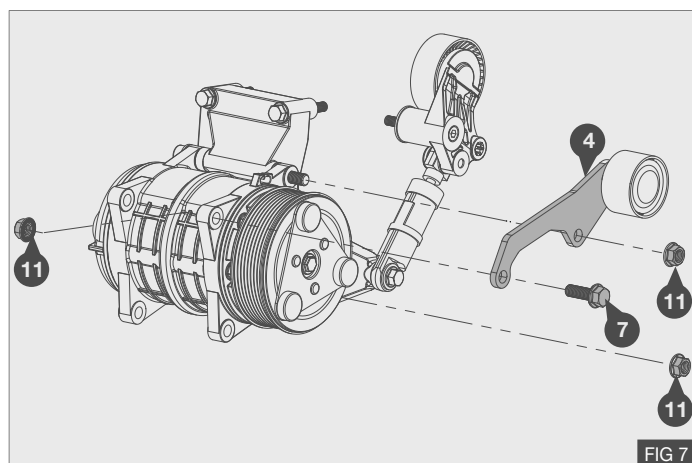

FIG 7
5. Install the idle plate assembly (4) to the compressor using nuts (11) with bolt (7) – Fig 7
6. Fit nut (11) to the lower compressor securing bolt - Fig 7
7. Torque the 3x nuts (11) to 63 Nm / 46 lb ft using a calibrated torque wrench – Fig 7